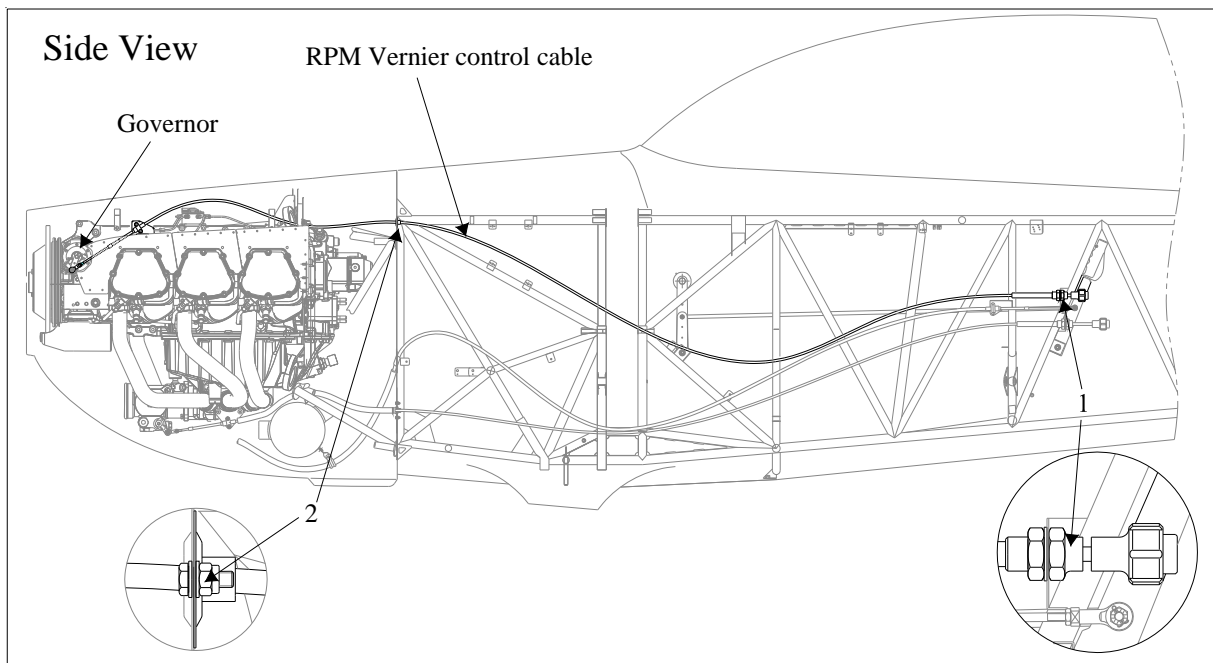
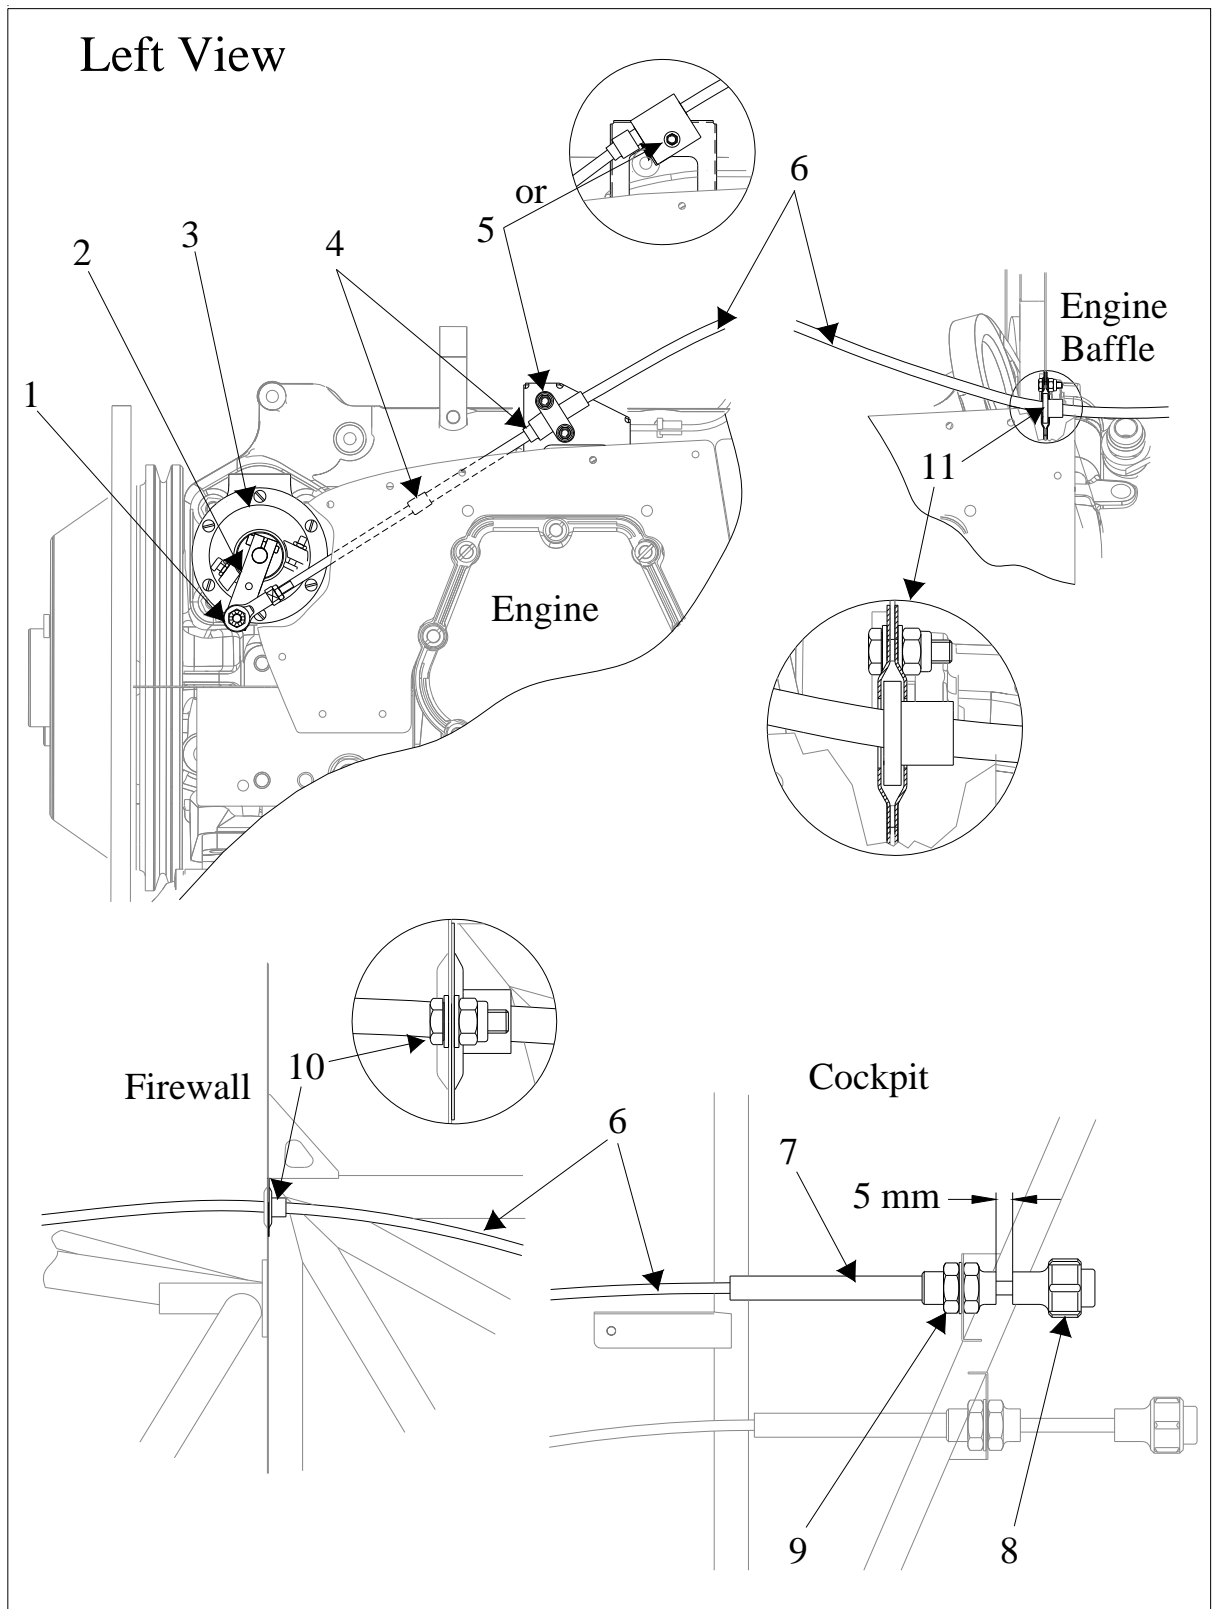

Figure 1
Figure 2
The propeller blade pitch change is conducted by a governor (refer to Figure 1). Once an engine rotational speed is selected it will be held constant independent of airspeed or power variations.
The governor itself is actuated via a vernier control cable ending on the left side of the rear cockpit (blue control knob; 1, figure 1 & 8, figure 2). This cable is routed on the left side of the fuselage, penetrates the firewall, the rear engine baffles and is then routed to the governor. The cable is attached at its front end to the engine by a clamp block and in the cockpit area to the steel tube structure by self-clinching plastic tiedown straps. The RPM vernier control unit is mounted to a fuselage bracket. The firewall and engine baffle penetrations are covered with clamp sheets. The firewall penetration (2, figure 1) is additionally sealed with PRC-812 (Products Research & Chemical Corp., USA) firewall sealant.
- 4 Remove cotter pin, castle nut, washers and bolt from the rod end (1, Figure 2) to governor actuator (2) attachment.
- 5 Loosen counter nut and remove the rod end (1) from the vernier control cable (6).
- 6 Remove rod end counter nut and vernier control cable protective swivel and wiper seal (4).
- 7 Remove clamp block (5) attachment bolt(s).
- 8 Remove clamp block from the vernier control cable (6).
- 9 Remove 2 bolts of the clamp sheet attachment positioned at the rear engine baffle break through (11). Disconnect both clamp sheets and contained plastic guidance from the engine baffle.
- 10 Remove 2 bolts of the clamp sheet attachment positioned at the firewall break through (10). Disconnect clamp sheet and contained plastic guidance from the rear side of the firewall.
- 12 Remove attachment nut (9) and washer of the vernier control unit (7).
- 14 Pull complete vernier control cable (6) aft to remove from aircraft. Secure clamp sheets.